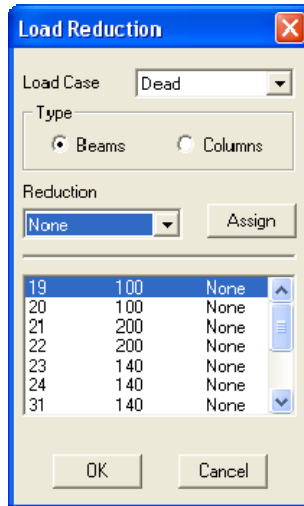

Figure 5-24 Load Reduction dialog box
- From the Options menu, choose Load Reduction. This command will be available only after inputting panels on the levels and distributing the loads to the attached members. The dialog box of Figure 5-24 appears.